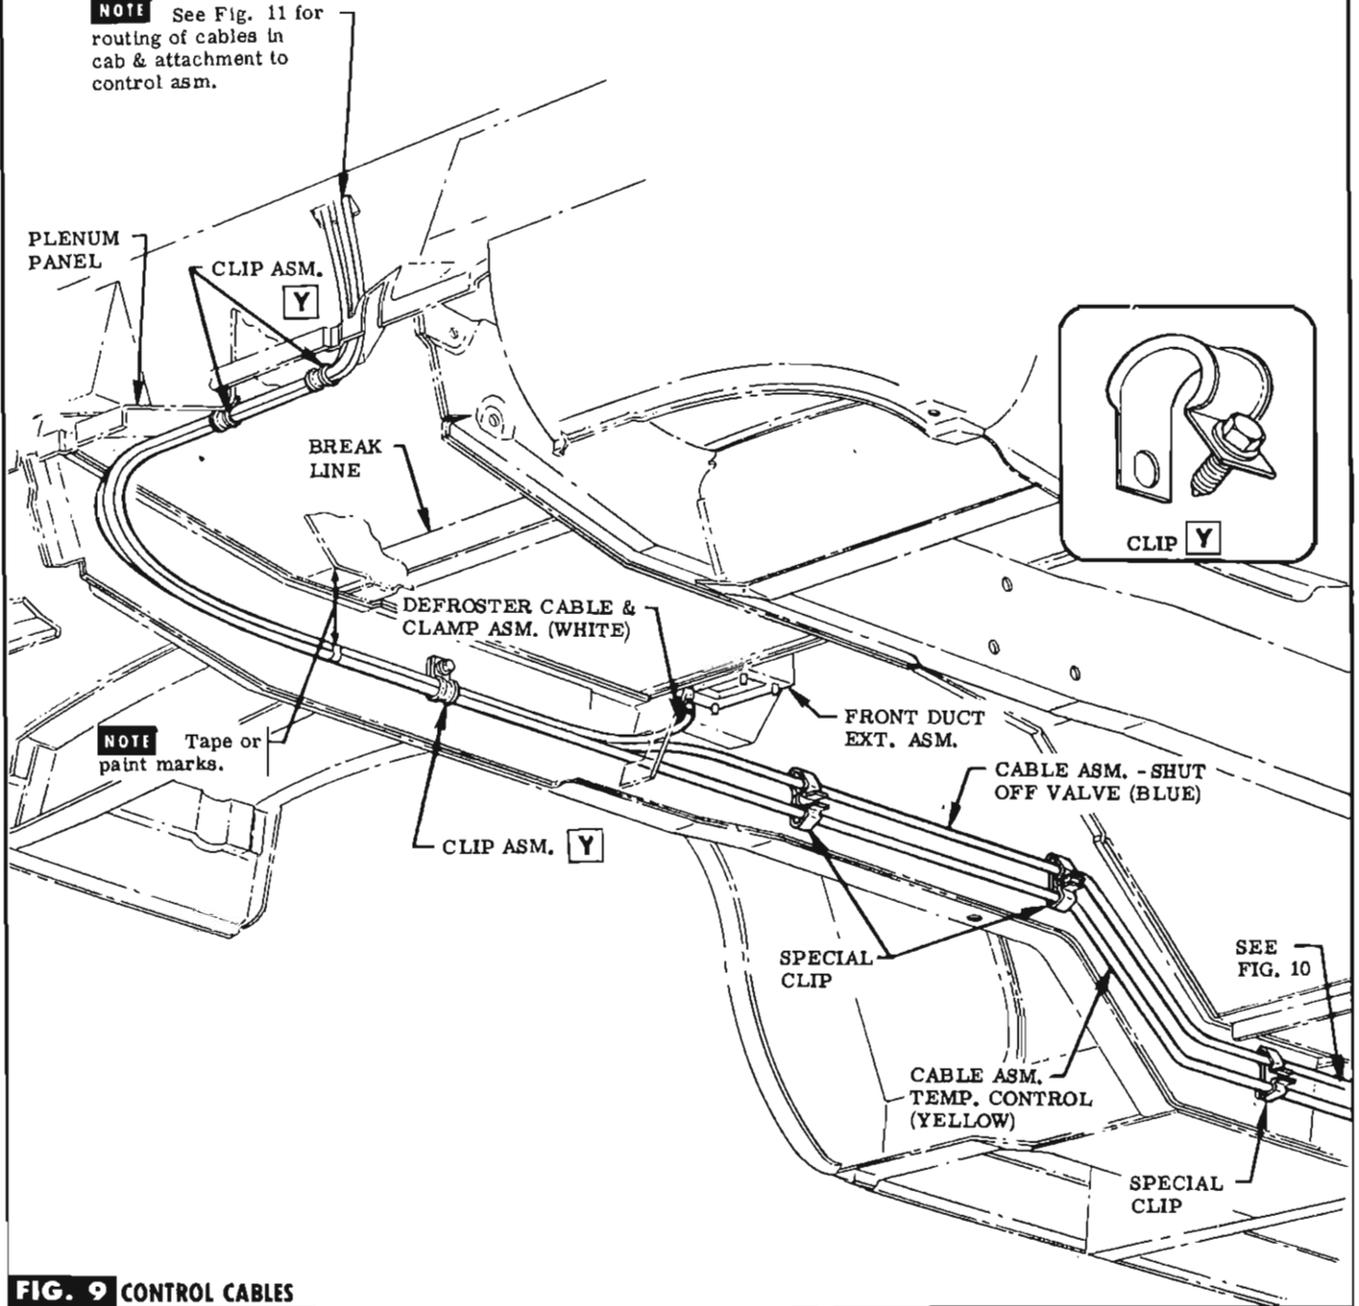

FIG. 9 CONTROL CABLES
STEP 46 ALIGN TAPE OR PAINT MARKS ON THE CABLES DIRECTLY BELOW FLOOR TO TOE PANEL BREAK LINE BEFORE CLIPPING TO UNDERBODY. ROUTE CABLES ALONG RIGHT SIDE RAIL & ATTACH TO EXISTING HOLES IN PLENUM PANEL & SIDE RAIL WITH CLIPS (IN BAG B). SEE FIG. 9.
STEP 47 ATTACH SHUT OFF CABLE TO TEMP. CABLE WITH CLIPS (IN BAG B) & INSERT CLIPS INTO EXISTING HOLES IN SIDE RAIL. SEE FIG. 9.
NOTE For front installation of cables in vehicles, See Fig. 9.